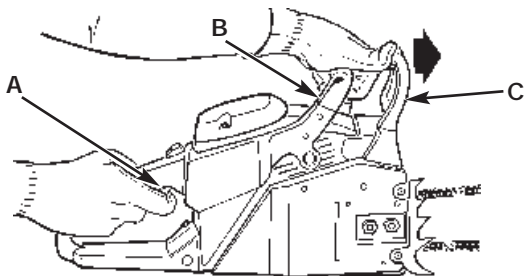

Fig. 10
3. Grasp the rear handle (A) with your right hand (Fig. 10).
4. With your left hand, hold the front handle (B) [not Chain Brake® lever (C)] firmly (Fig. 10).
5. Squeeze the throttle trigger to 1/3 throttle, then immediately activate the Chain Brake® lever (C) (Fig. 10).